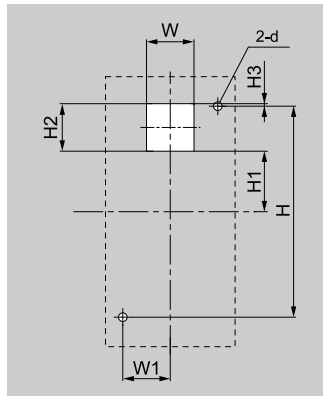

Figure 2.11 Panel Cut-Out Dimensions to Attach Outside of Control Panel
1. Use the panel cut-out dimensions in Figure 2.11 and Table 2.9 to cut an opening in the control panel for the keypad.